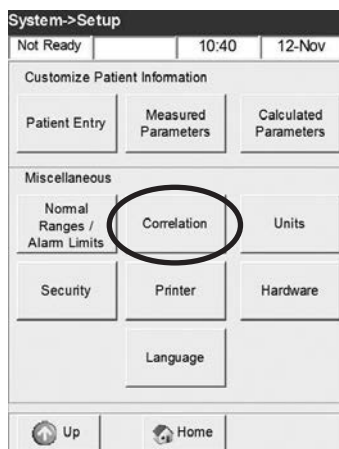

Fig. 3-18 Select Correlation
2. In the **<System Setup>** menu, press **<Correlation>** (Fig. 3-18).